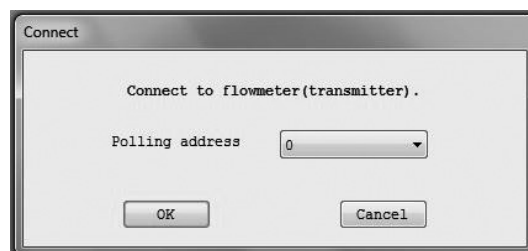

Fig. 3-9
- (2) The message box (Fig. 3-9) will be displayed. By clicking "OK" button, the connection will be started. By clicking "Cancel" button, the connection operation will be cancelled.